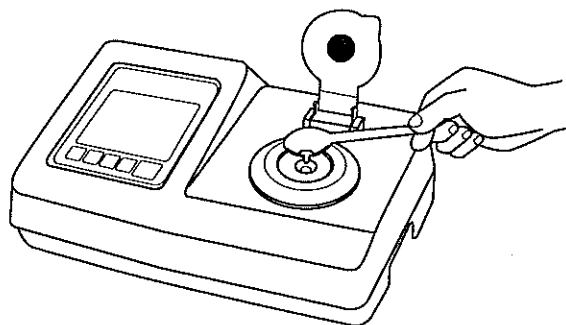

Fig. 12-11
- b) Drop at least 0.1ml of the sample onto the prism surface (Fig.12-11).